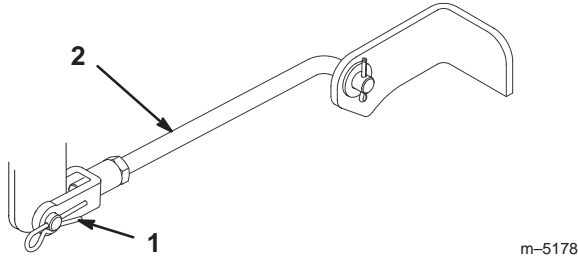

Figure 46
5. Remove the hairpin cotter and clevis pin from the front trunnion yokes (Fig. 46).
8. Attach the front trunnion rods to the tractor with the clevis pins and hairpin cotters (Fig. 46).